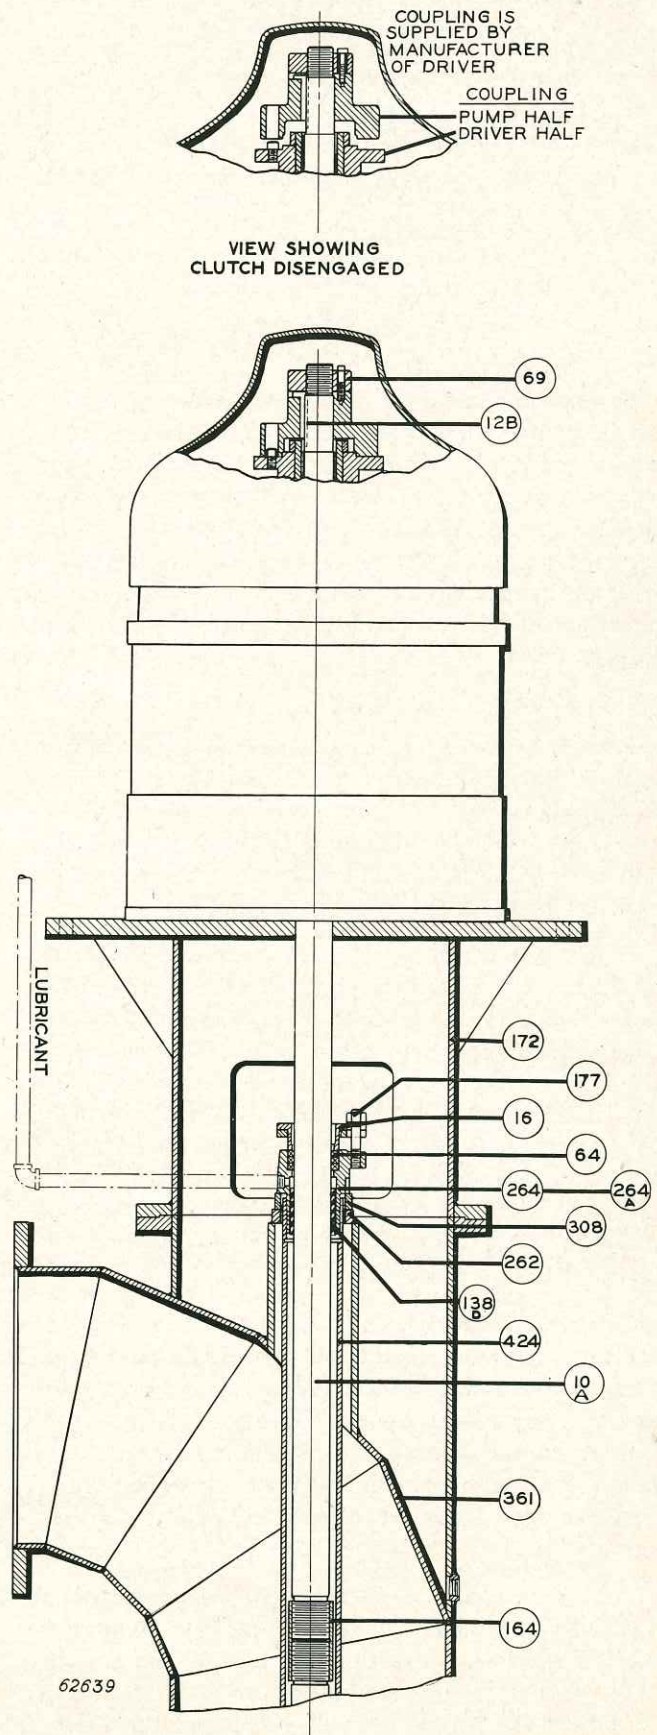

Fig 6. Construction details of pump with hollow shaft motor. See Fig. 9 for part names.
a. *Hollow-Shaft Units (Fig. 6)*